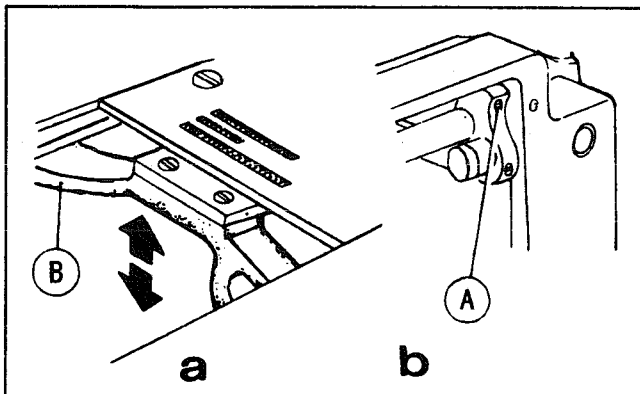

Fig. 22
## 18. ADJUST THE HEIGHT OF FEED DOG ( Fig.22,23 )
- 2) Loosen Screw ( A ) of feed lifting rock shaft crank right ( See Fig.22,b )
- 3) Move Feed Bar ( B ) in the direction shown by the arrow in Fig. 22 ( a ) to adjust the height of the feed dog. The standard height of feed dog is that the top of feed dog is 0.8mm above Throat Plate Surface ( B ).